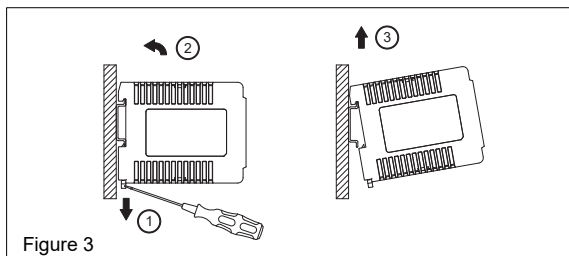

Figure 3
**4. Dismounting (Fig. 3)**
To uninstall, use a flat screwdriver to pull or slide down the latch as shown in Fig. 3. Then slide the PSU in the opposite direction, release the latch and pull out the PSU from the rail.